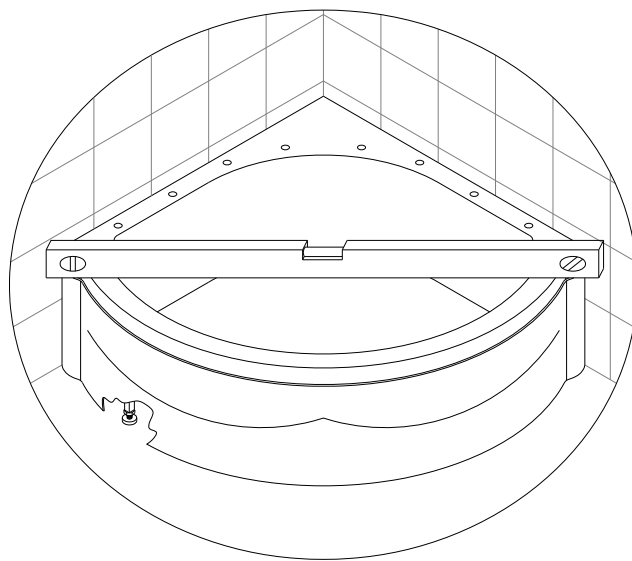

Fig 6
7. Place the **Bottom tray (3)** in the required position. You may need to take off the front skirt panel for easy access. Adjust the legs to level the tray in case the surface is uneven. Fasten the counter nuts on the legs to secure the height. See Fig 6 for details.